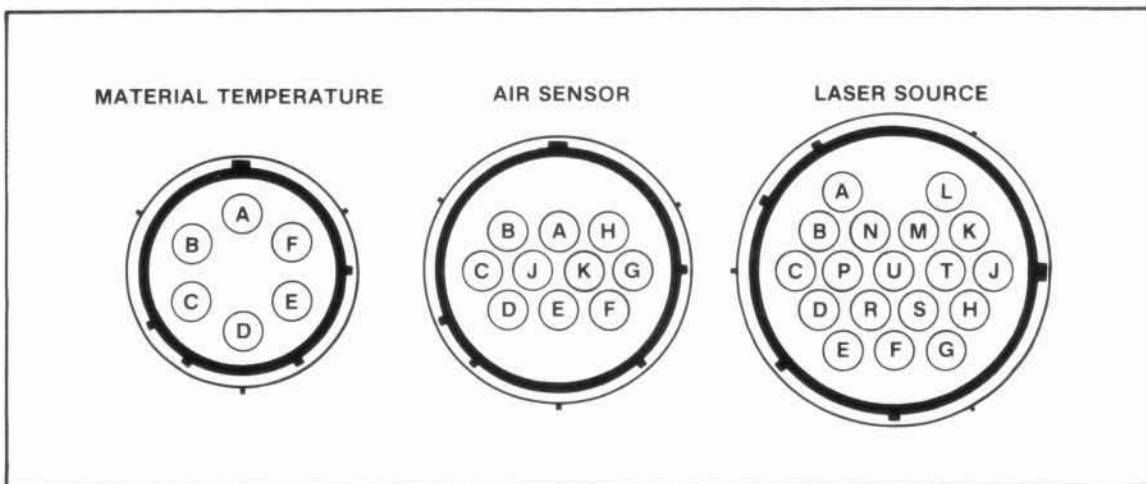

Figure 7-19. HP 5507A Rear Panel Sensor Connectors
1. Ground pins A, G, and H of the Air Sensor connector to the HP 5507A rear panel. (See *Figure 7-19*.)
The HP 5507A rear panel sensor connector pin-outs are shown in *Figure 7-19*, HP 5507A Rear Panel Sensor Connectors. Pin designation letters on the figure correspond to those stenciled on the connector. Connector pin function and open connector measurement values are provided for reference in *Tables 7-10*, *7-11*, and *7-12*. Open connector (no instrument connected) measurement values listed in the tables can be used for initial tests. Good probe contact is required to verify resistance measurements that are given for some of the connector pins. The cable pins are 0.04 inch in diameter.